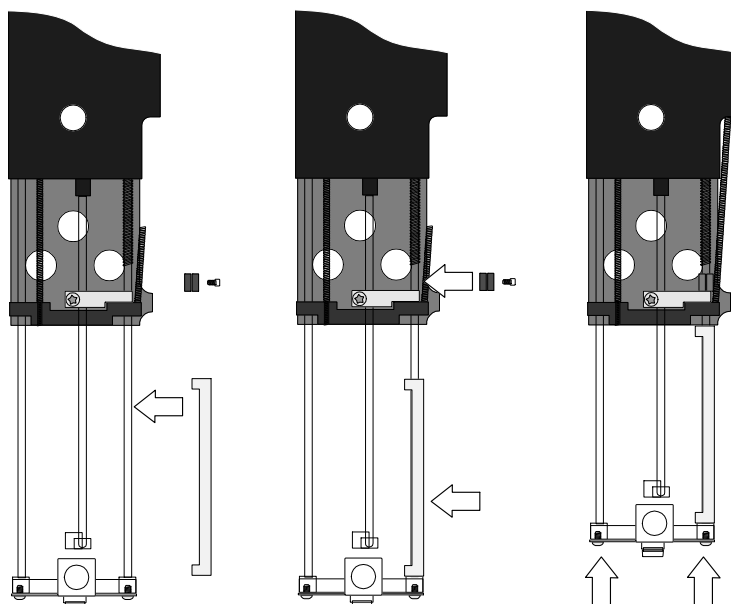

Figure 6. Adjusting the Needle Guide to the appropriate Needle Length for the DLW Option.
6. The needle length has to be re-adjusted to 73.0 mm. A tool is provided with the DLW-2 Option, the 'DLW Needle Length Guide Tool'. Insert the tool in one of the guide bars as shown in Figure 6 below;
Figure 6 illustrates the position of the mechanical stop for the needle guide, shown outside the unit for illustrative purposes. When assembled, this part is mounted to the rod. This illustration emphasizes the fact that the stop must first be opened and then fixed again.